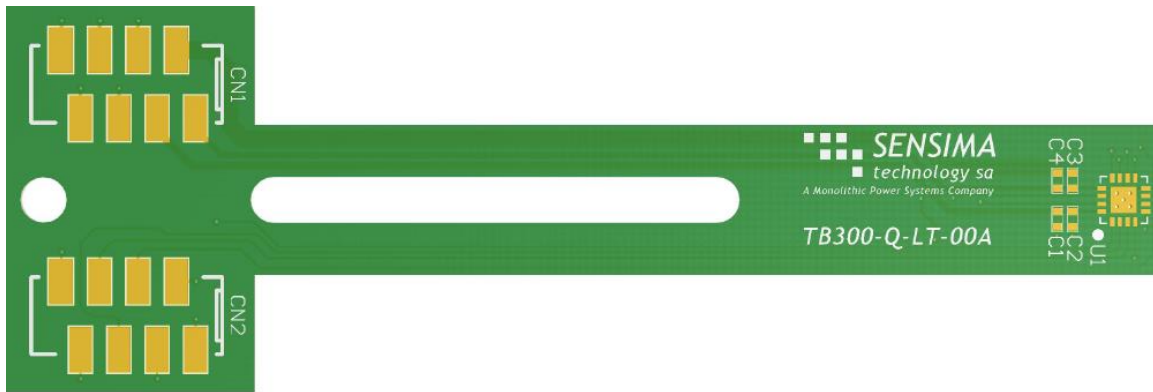

Figure 3: Type 1 Board Overview
Figure 3 shows an overview of the type 1 long (LT) board.